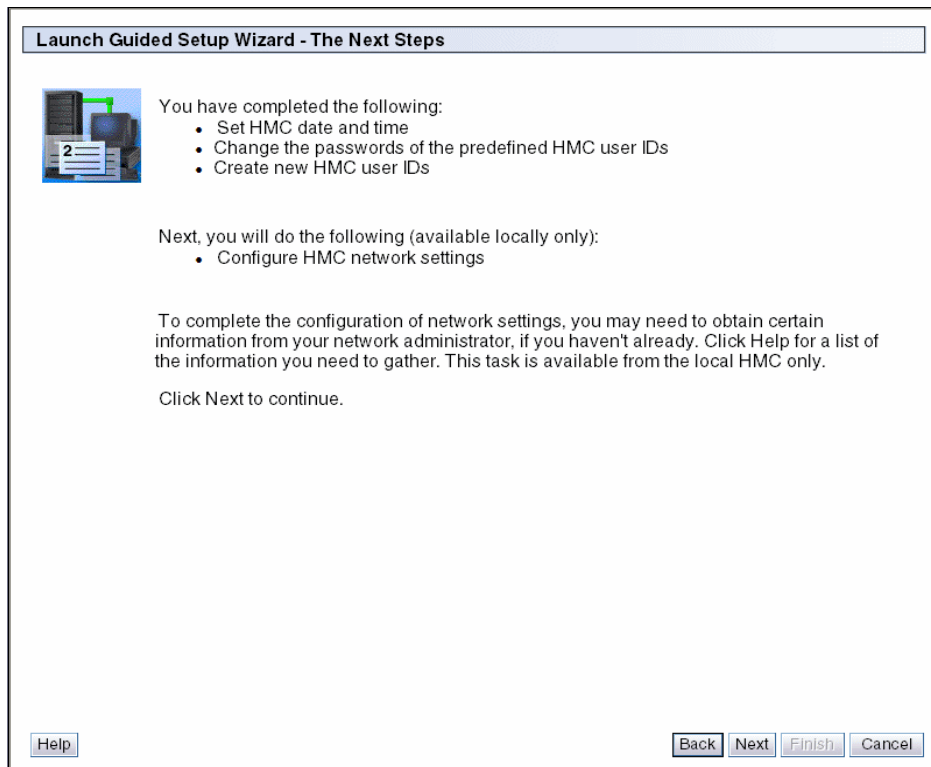

Figure 3-16 Launch Guided Setup Wizard - The Next Steps
9. This completes the first part of the Guide Setup Wizard. The Launch Guided Setup Wizard - The Next Steps panel displays as shown in Figure 3-16.